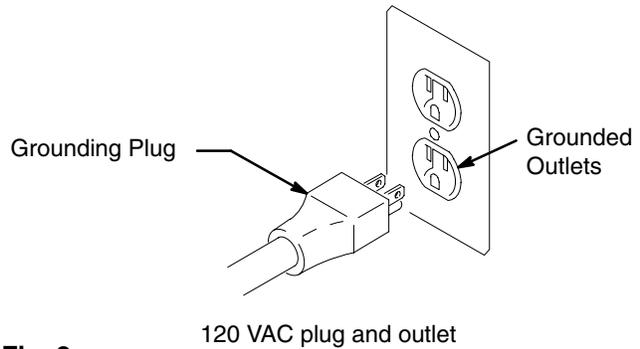

Fig. 2
1. The 824910 and 824912 require 120 VAC, 60 HZ, 15A with a grounding receptacle. See Fig. 2.